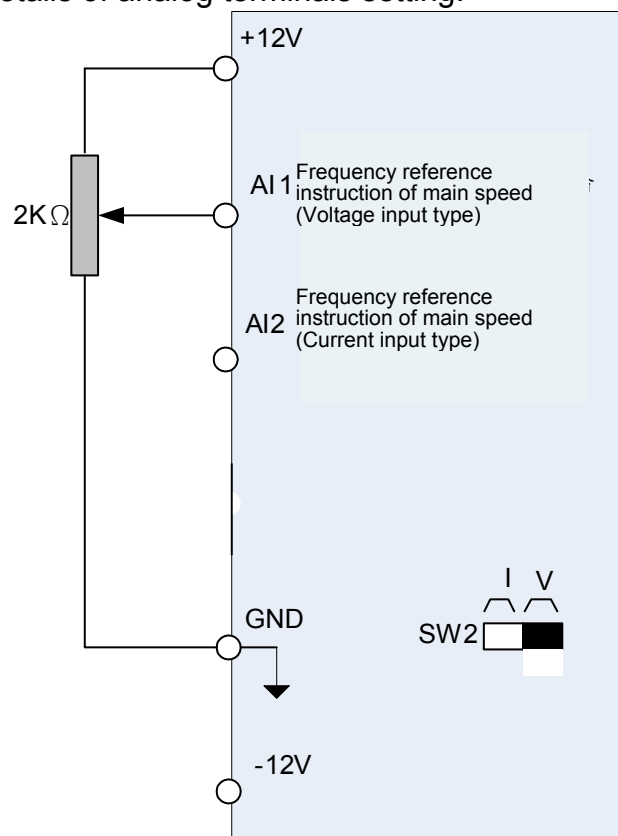

Figure 4.3.4 Analog input of frequency reference command of main speed
(1) 00-05= 0:
- . Use the digital operator (as shown in Figure 4.3.4) to directly input frequency reference command, or to change parameters of 05-01 (frequency reference 1) settings. Please refer to section 4.1.4, the screen mode - details of setting the frequency reference.
(2) 00-05=1:
- ① Input 0V to terminal AI1
- ② Set 04-00=1: (select the multi-function analog input terminal AI2 signal as the input of 4 ~ 20mA)
- ③ Set the dip switch SW2 to position I (current).
- ④ Set 04-05=10 (AI2 signal is increased to AI1).
- . Refer to Figure 4.3.4 so understand the source selection of main speed frequency comes from details of analog terminals setting.